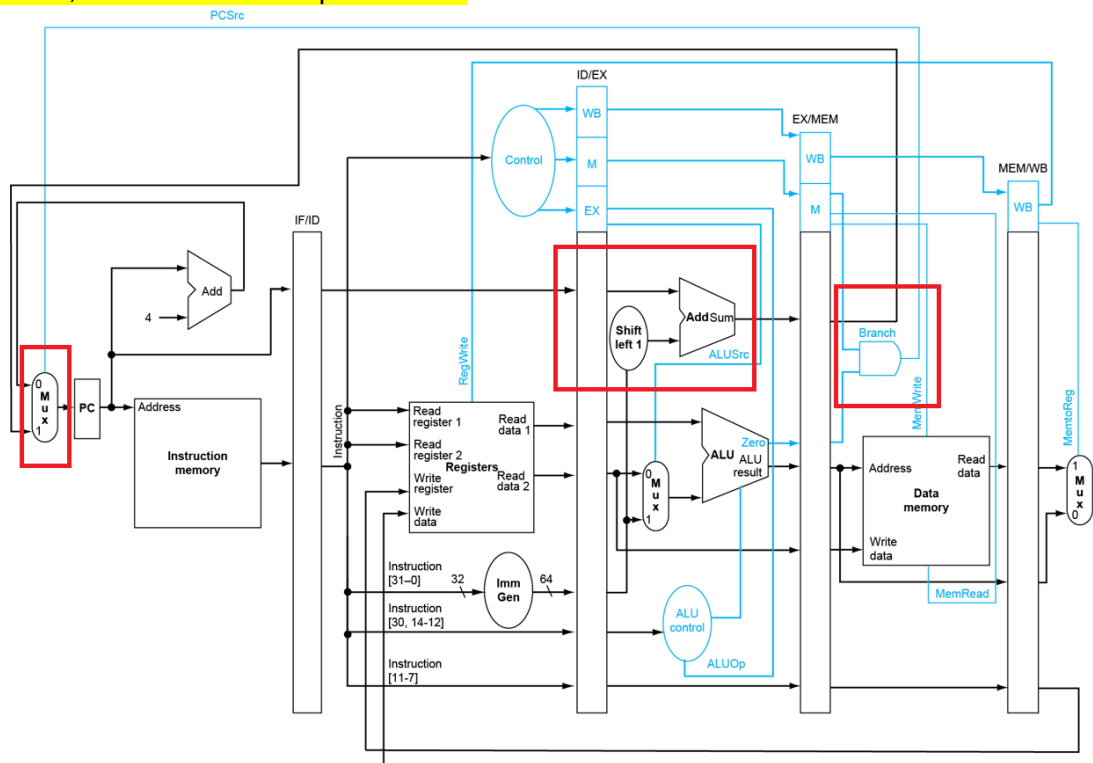

Figure 1
- ◆ Adding the conditional branch instructions follows the logic shown in Figure 4.49 of the textbook, reproduced below as Figure 1. The functions in the three red rectangles must be added.
- ◆ In the EX stage, add the Adder component which adds the PC value to the correct immediate value. The “Shift Left 1” function in Figure 1 is not necessary, as this function is handled in the IMMGEN logic. The output of the adder (s_ex_target_address) will be used below. Add the zero signal coming out of the ALU.